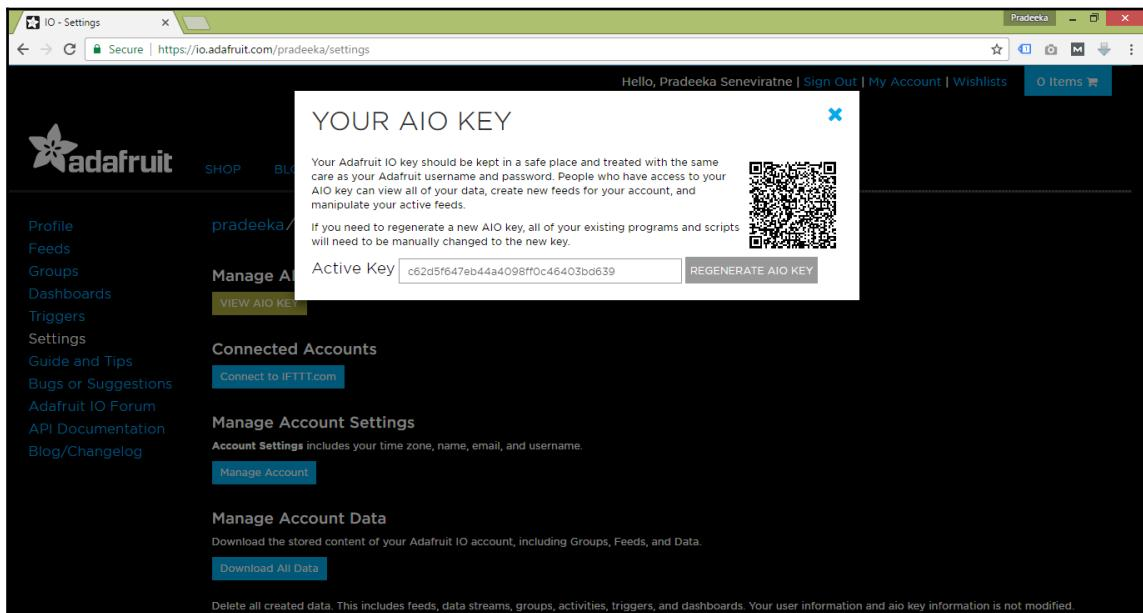

Figure 4-3: Adafruit AIO key
2. Click **VIEW AIO KEY** under **Manage AIO Keys**. A pop-up window will show the AIO key associated with your account, as shown in Figure 4-3: